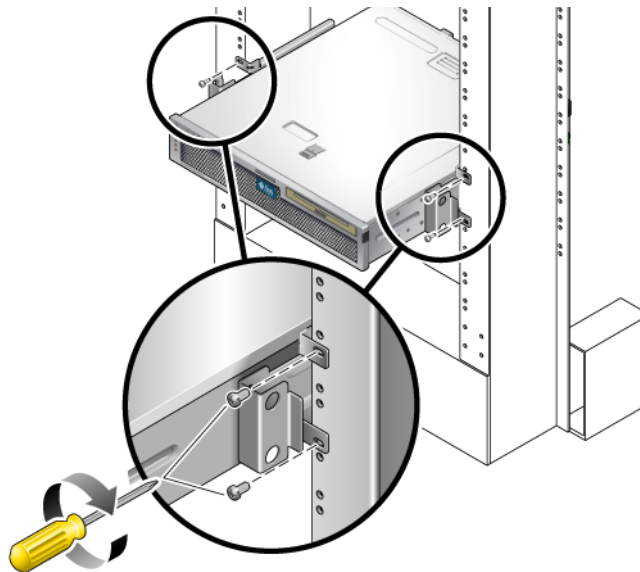

FIGURE 4-10 Installing and Securing the Server in the 2-Post Rack
4. Using two screws for each bracket, secure the front of the server to the front of the rack (FIGURE 4-10).